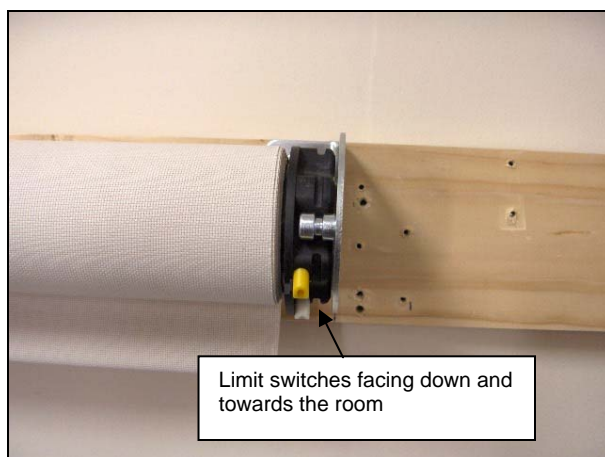

Figure 19 Motor in Bracket
- Allow the shade to slide back so that the Star Head on the motor engages the pins on the motor bracket. See Figure 19.